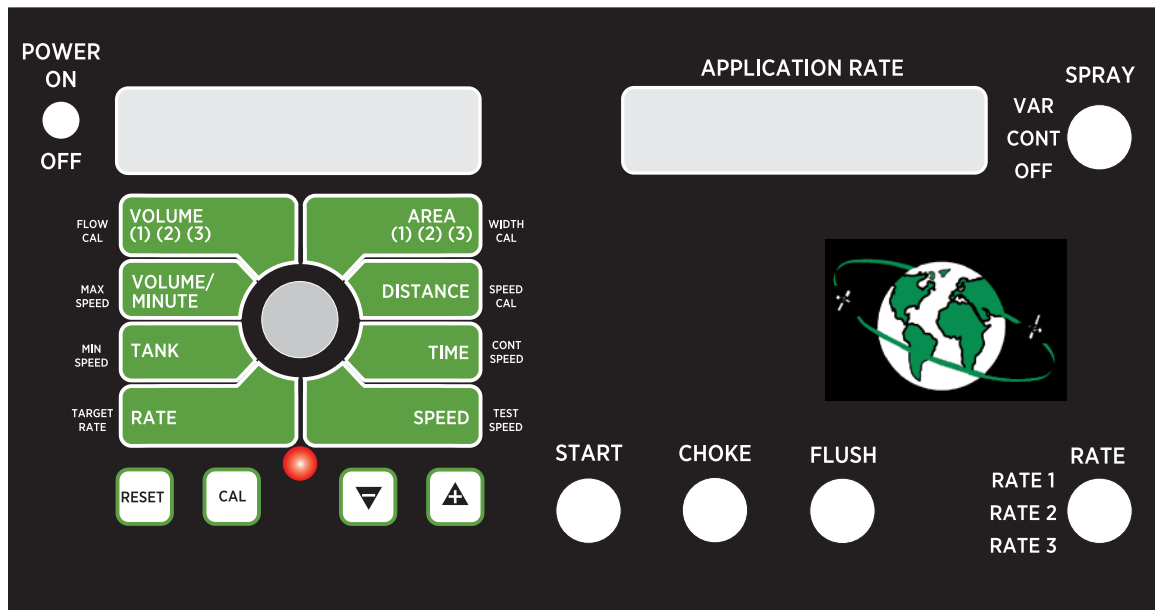

Figure 8- SmartFlow Console
1. On the Console, turn the Main Power switch to the ON position. Reference Figure 8.
2. On the Console, set the Spray switch to the OFF position. Reference Figure 8.
3. For a cold engine, on the Console, toggle the choke switch and starter switch at the same time, until the engine fires. Reference Figure 8.
4. For a hot engine, on the Console, toggle the starter switch until the engine fires. Reference Figure 8.